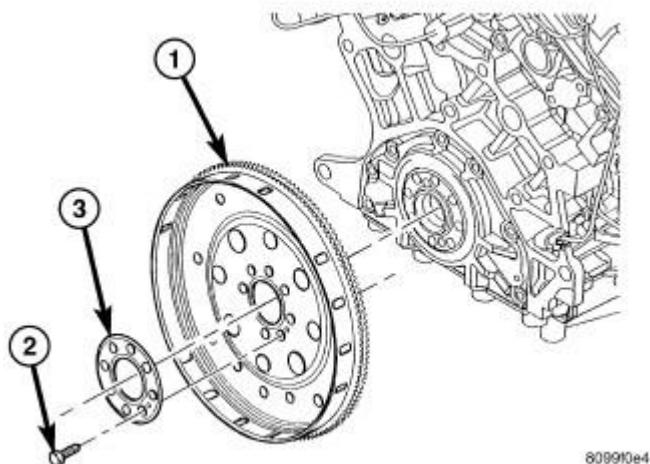

Fig. 349: Flex Plate With Bolts & Backing Plate
2. Remove flex plate attaching bolts (2).
3. Remove the flex plate (1). Refer to **Fig. 349**.